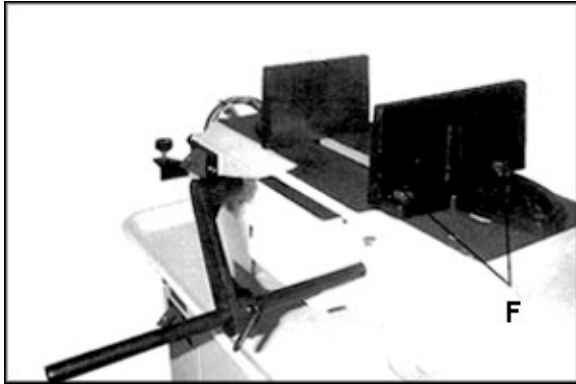

Figure 8-17: vise positioning (712 only)
1. Remove bolt and nut assemblies (F, Figure 8-17).
2. Position vise and reinstall as shown in Figure 8-17. Pay particular attention to bolt hole location.
2. Position vise and reinstall bolt assemblies as shown in Figure 8-17.